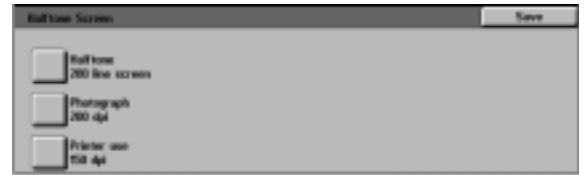

Figure 53: Halftone screen
- Touch the **Halftone Screen** icon to access the Halftone Screen, as illustrated in Figure 53.